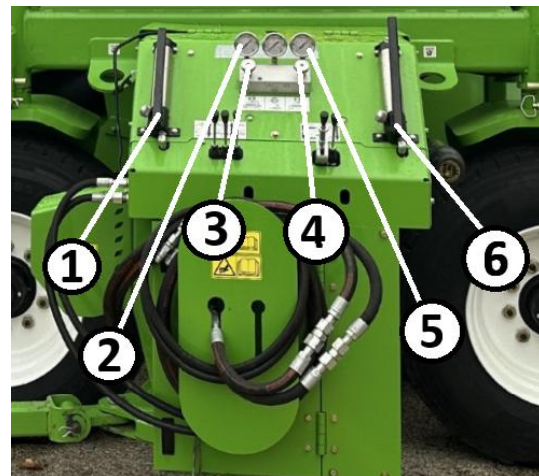

Figure 66. Hand Pump Locations
2. At the very end of the load, with a few tons for silage remaining, safely and slowly release the wheel brakes. See Figure 66